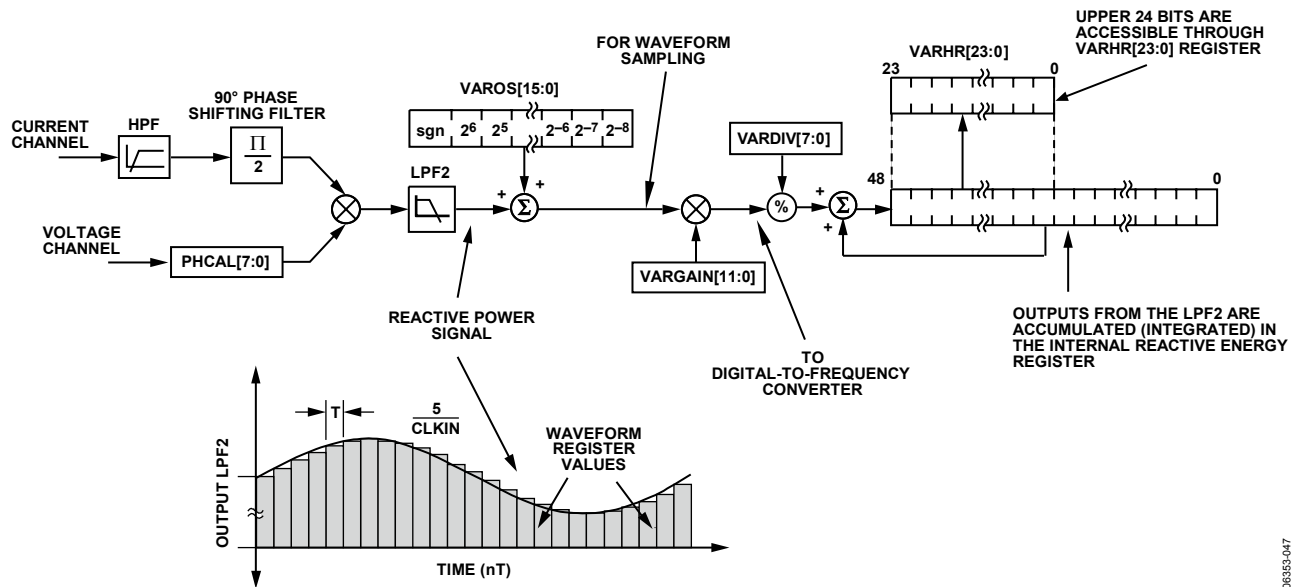

Figure 71. Reactive Energy Calculation
The instantaneous reactive power signal  $q(t)$  is generated by multiplying the voltage and current channels. In this case, the phase of the current channel is shifted by  $90^\circ$ . The dc component of the instantaneous reactive power signal is then extracted by a low-pass filter to obtain the reactive power information (see Figure 71).
Figure 71 shows the signal processing chain for the ADE7569/ADE7169 reactive power calculation. As explained in the Reactive Power Calculation for the ADE7569/ADE7169 section, the reactive power is calculated by applying a low-pass filter to the instantaneous reactive power signal. Note that, when reading the waveform samples from the output of LPF2, the gain of the reactive energy can be adjusted by using the multiplier and by writing a twos complement, 12-bit word to the VAR gain register (VARGAIN[11:0]). Equation 25 shows how the gain adjustment is related to the contents of the watt gain register.
The ADE7569/ADE7169 also incorporate a reactive power offset register (VAROS[15:0]). This is a signed, twos complement, 16-bit register that can be used to remove offsets in the reactive power calculation (see Figure 71). An offset can exist in the reactive power calculation due to crosstalk between channels on the PCB or in the IC itself. The offset calibration allows the contents of the reactive power register to be maintained at 0 when no power is being consumed.
The discrete time sample period (T) for the accumulation register in the ADE7569/ADE7169 is  $1.22 \mu\text{s}$  (5/MCLK). As well as calculating the energy, this integration removes any sinusoidal components that may be in the active power signal. Figure 71 shows this discrete time integration or accumulation. The reactive power signal in the waveform register is continuously added to the internal reactive energy register.
As shown in Figure 71, the reactive power signal is accumulated in an internal 49-bit signed register. The reactive power signal can be read from the waveform register by setting the WAVMODE register (0x0D) and setting the WFSM bit in the Interrupt Enable 3 SFR (MIRQENH, 0xDB). Like the current and voltage channel waveform sampling modes, the waveform data is available at sample rates of 25.6 kSPS, 12.8 kSPS, 6.4 kSPS, or 3.2 kSPS.